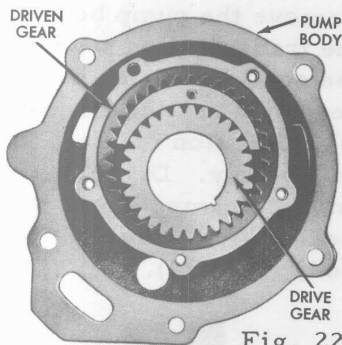

Fig. 22
- ☒ Remove the screws and lock washers which secure the pump cover to the pump body. Remove the cover. Mark the top face of the pump drive and driven gear with marking blue to assure correct installation of gears at assembly (Fig. 22).